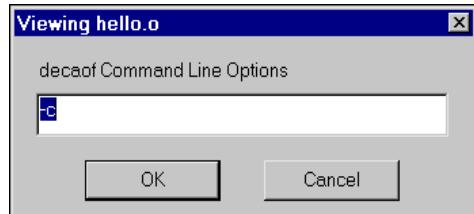

Figure 2-18 Viewing dialog
2. Select **Contents hello.o** from the **View** menu. The appropriate Viewing dialog for the translator is displayed (Figure 2-18).